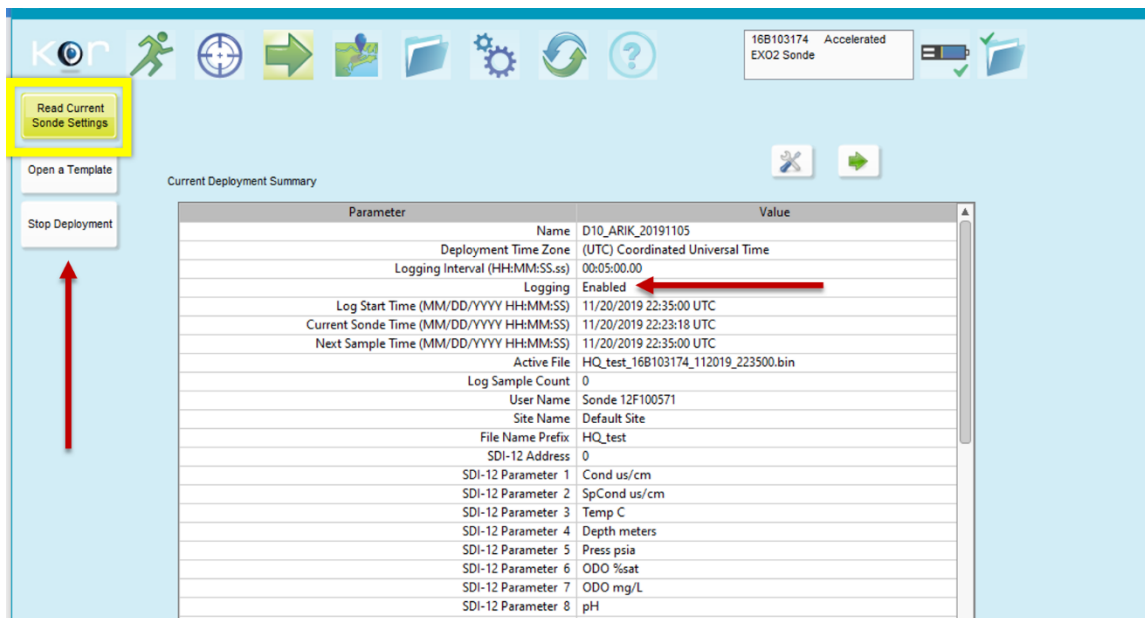

Figure 9. Read Current Sonde Settings to Verify Logging is Enabled
- After the settings load, confirm that logging is enabled by clicking on **Read Current Sonde Settings**. Logging is enabled if the **“Stop Deployment”** button displays and Logging **“Enabled”** is indicated in the Current Deployment Summary table. (Figure 9).